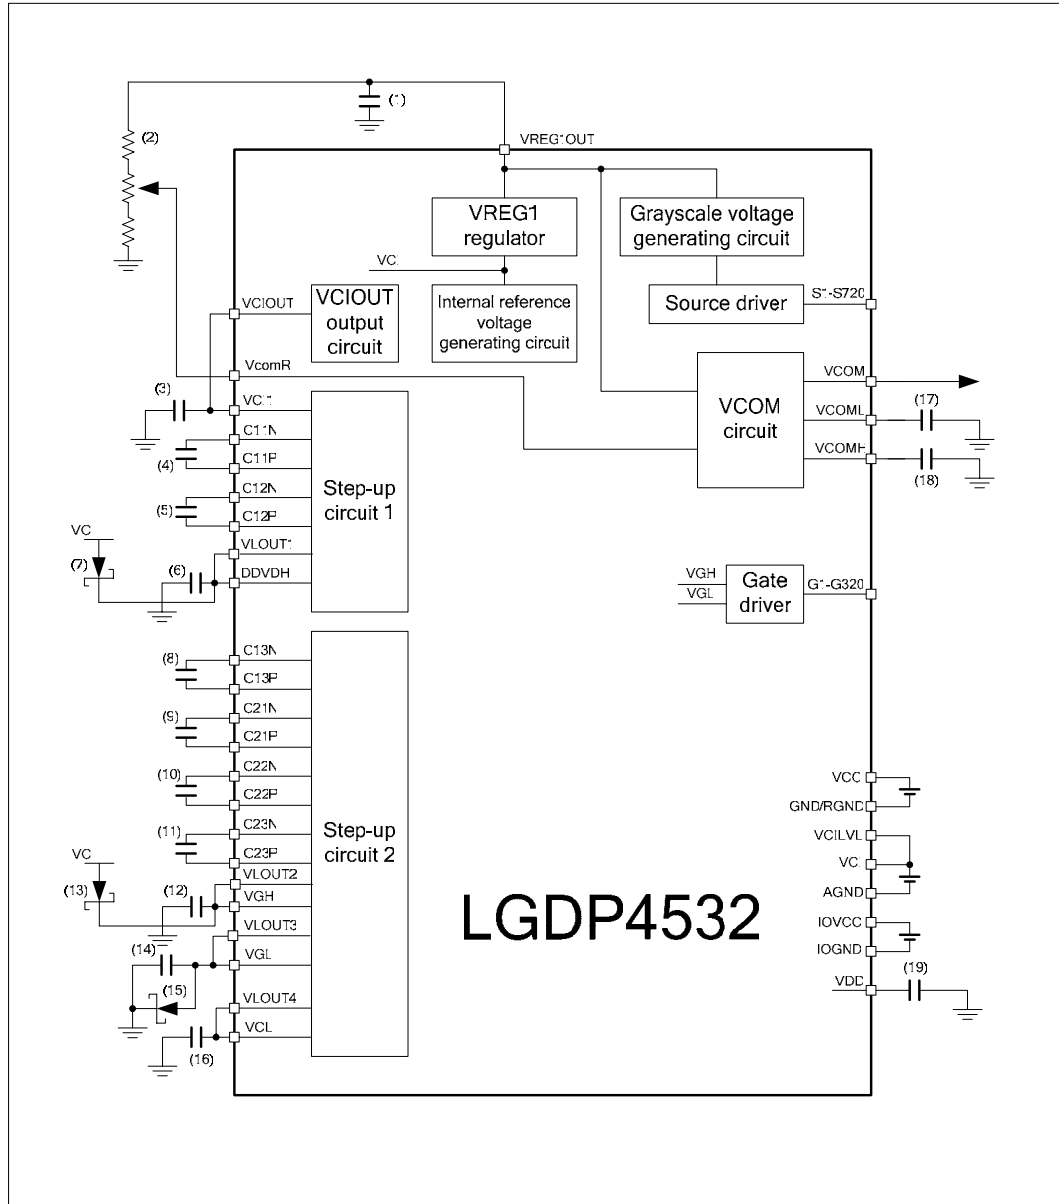
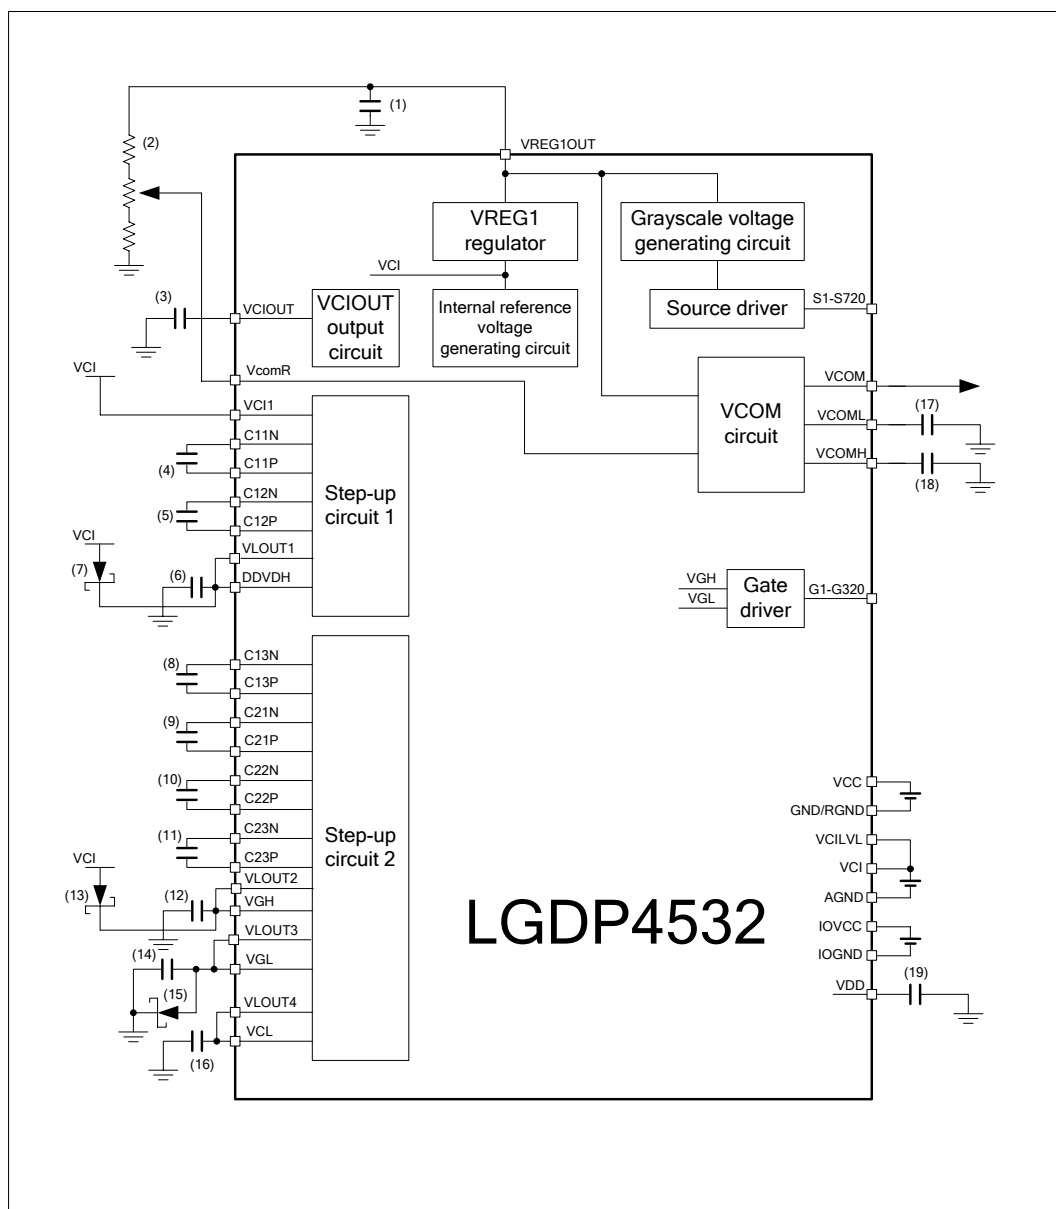

Figure 72
Figure 73
2. The numbers in the parentheses corresponds to the numbers of the elements in Figure 72, Figure 73.